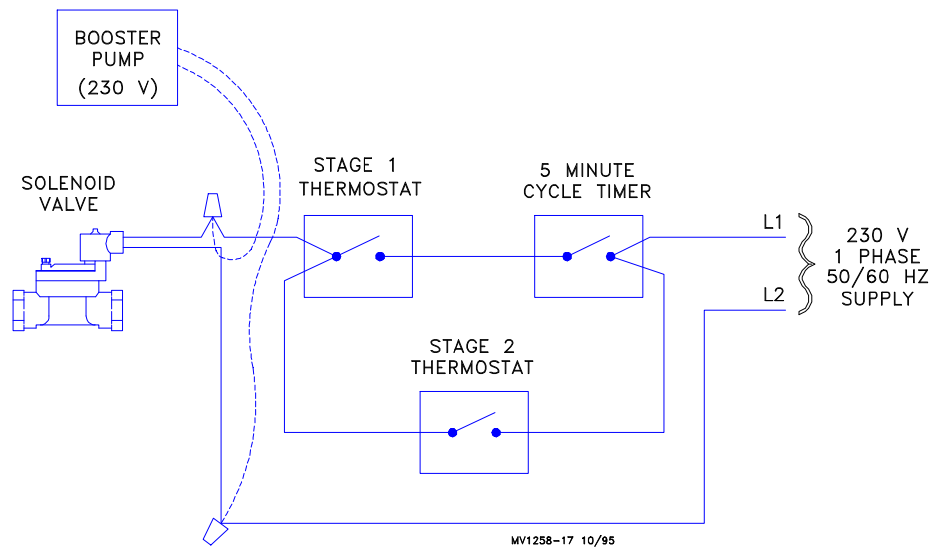

Figure 13. System wiring when controlled by two thermostats and cycle timer.
- n Further, a second thermostat may be wired in parallel with the first thermostat and timer to provide second stage of cooling. This thermostat can be used to hold the solenoid open allowing for maximum amount of water to be sprayed onto the pad. This will provide the maximum amount of cooling. Refer to **Figure 13** for wiring information for this type of system.